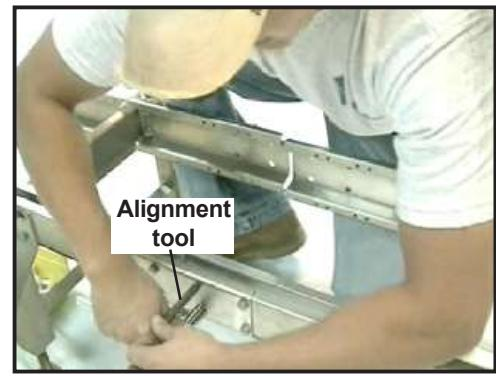
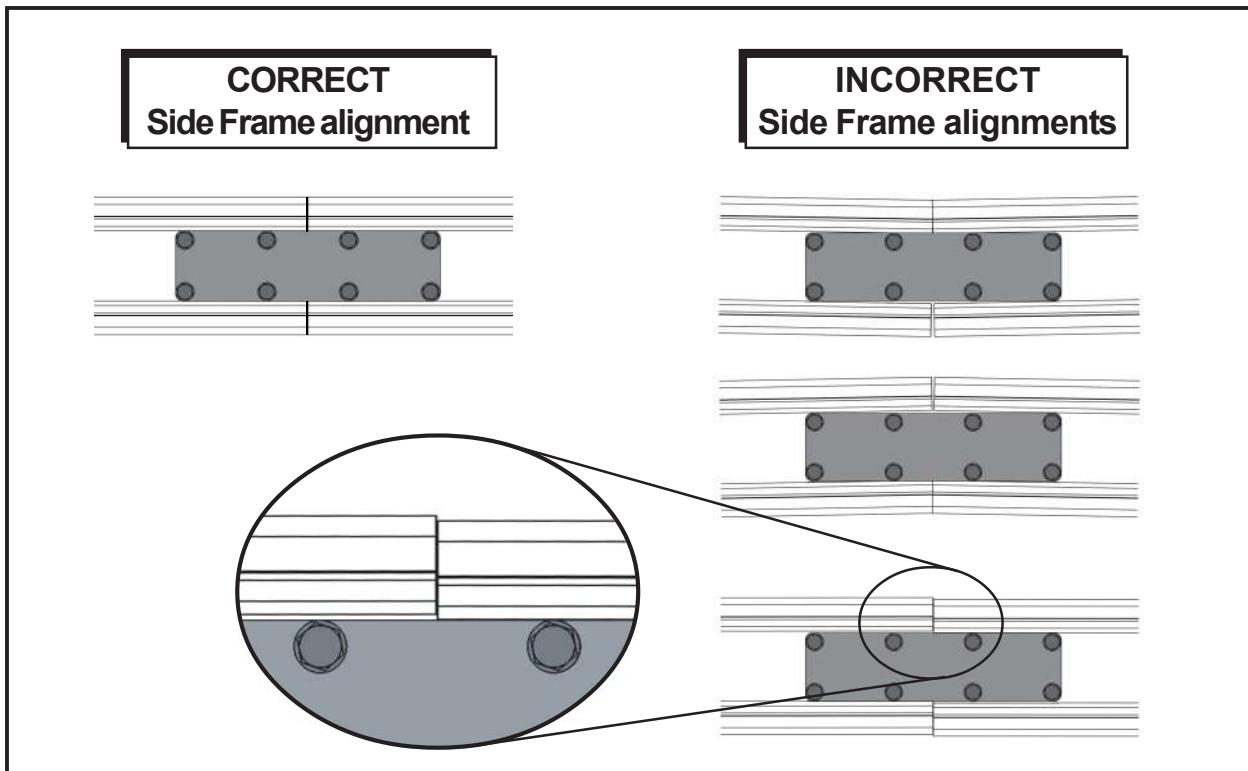

Figure 6: Use alignment tool (in open hole) to draw Bed Sections together
Figure 7: Side Frame misalignment illustrations
- Insert an alignment tool into the open hole, and draw the two frames together (*Figure 6*). Ensure that the frames are aligned (*Figure 7*) by feeling the connection with your fingers.
- Repeat assembly procedure for all remaining bed sections; inspect all joints for correct and accurate alignment (*Figure 7*).